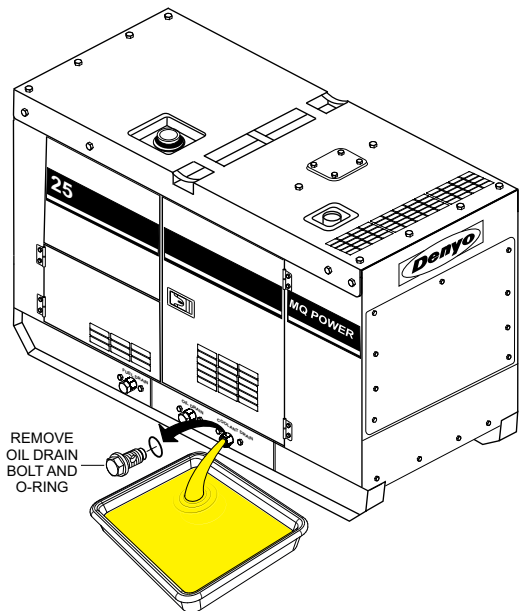

Figure 70. Draining The Engine Coolant
2. Remove the **coolant drain bolt and O-ring** (Figure 70), then allow the coolant to drain into a suitable container.